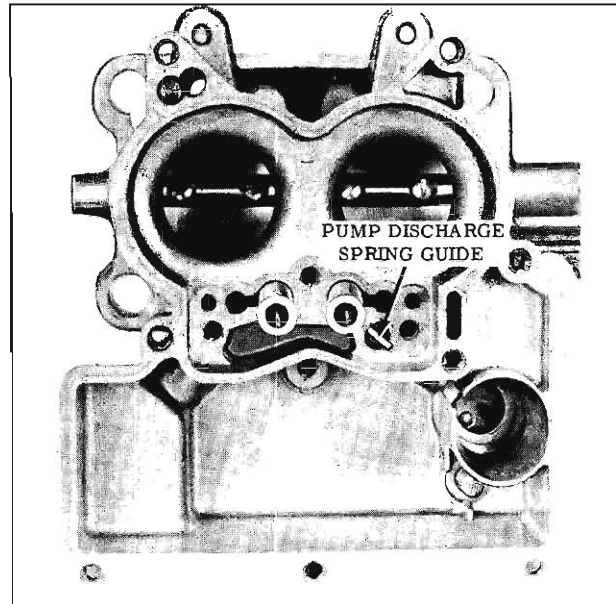

Fig. 4-136 Pump Discharge Spring Guide
4. Using a pair of needle-nosed pliers, remove the pump discharge spring guide, then remove the spring and steel ball. (Fig. 4-136)
- Install steel pump discharge ball, spring and guide into the pump discharge passage in the venturi cluster mounting surface. (Fig. 4-136)